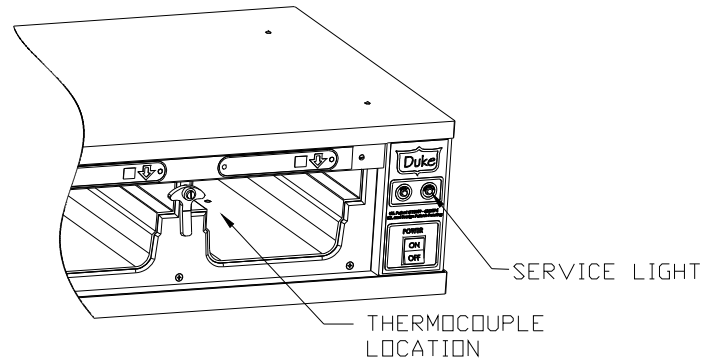

Figure 3
The Service Light is located on the front of the control next to the heat light (see Figure 3). It provides an indication to alert the operator to failures in the heater circuit. When a Service Light is on, the unit should not be used until the cause of the fault is corrected by a qualified service technician. The fault conditions that could cause the control to turn the service light on are as follows:
4. Locate the surface temperature probe on the bottom of the first cavity in the geometric center. The first cavity is the one closest to the control panel (see Figure 3). Make sure the probe is making good contact with the surface while taking readings.